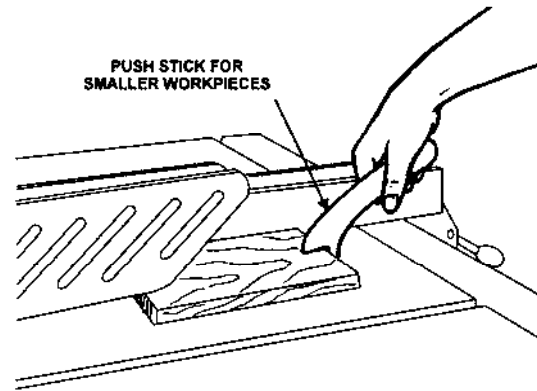

Figure 36
4. Support the work properly and hold it firmly against the gauge or fence. Use a push stick or push block when ripping short, narrow (6" width or less), or thin work. Use a push block or miter gauge hold-down when dadoing or molding. (Figure 36)